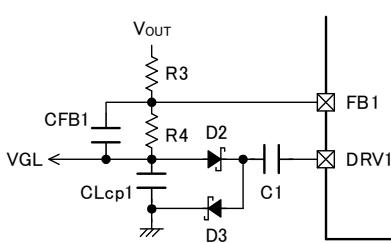

Figure 3.
7. In case of  $V_{GL}$  voltage,  $V_{GH}$  voltage may overshoots or undershoots when power supply rise, please put speed-up capacitor (CFB1, CFB2) between FB1 pin and  $V_{GL}$ , FB2 pin and  $V_{GH}$ . (Please refer to figure 3 and 4.)